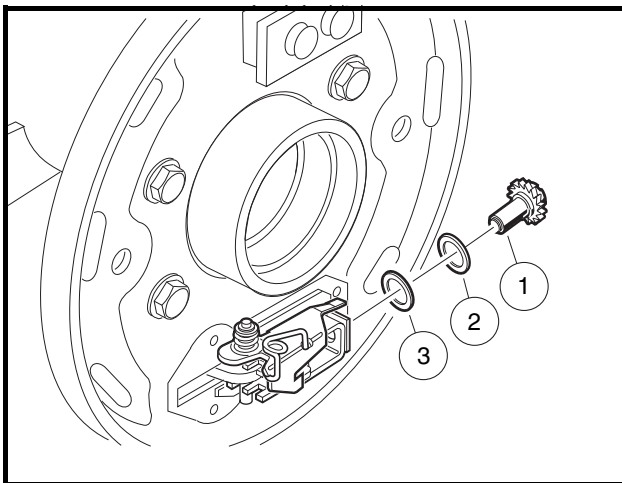

Figure 6-6 Remove Adjuster Wheel
8. **Self-adjusting brake vehicles only:** Remove the adjuster wheel (1) with two washers (2 and 3) from the backing plate (**Figure 6-6, Page 6-3**).